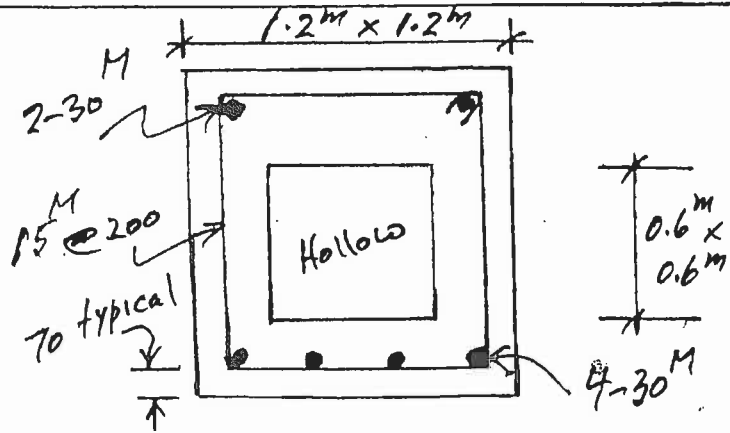

FIGURE B1
- B1. Figure B1 shows the cross-section of a reinforced concrete box culvert. Calculate the moment of resistance  $M_r$  and the shear resistance  $V_r$  of the section. Use  $f'_c = 35$  MPa and  $f_y = 400$  MPa.